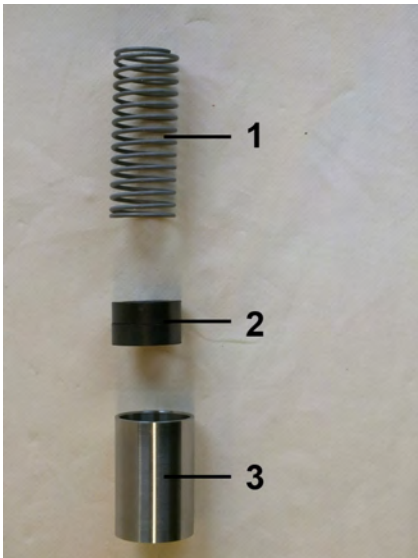

Fig. 50: Spring, magnets and float
18. The inner parts of the flow monitor consist of the spring (Fig. 50/1), magnets (Fig. 50/2) and float (Fig. 50/3).